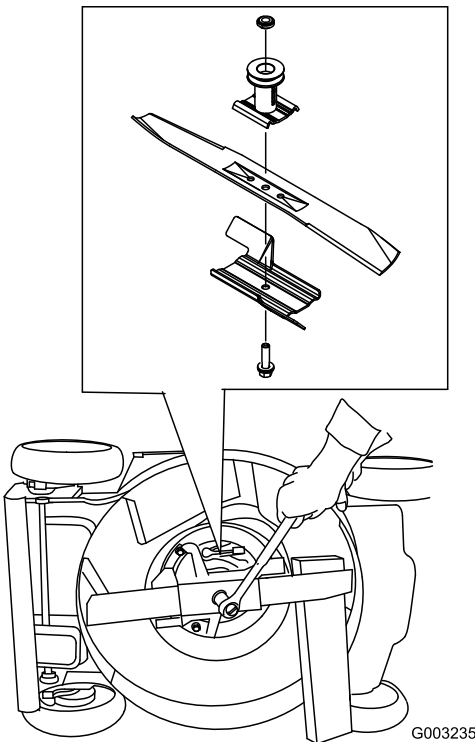

Figure 39
5. Install the new blade and all mounting hardware (Figure 39).